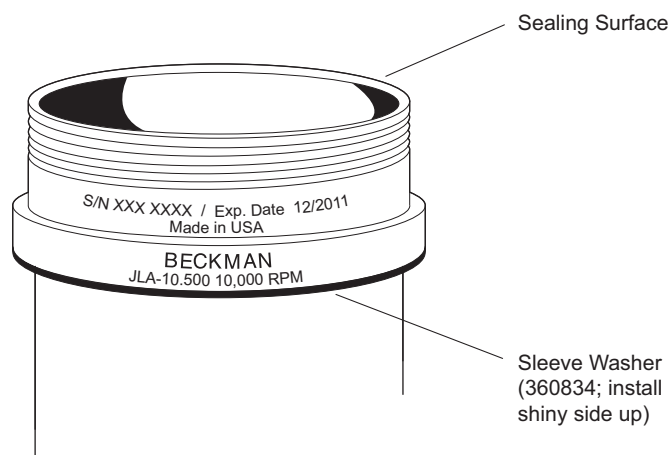

Figure 3. Cannister Sleeve Washer
- Inspect the sealing surface (see Figure 3) to make sure that it is smooth and undamaged. Gouges in this surface may prevent the closure O-ring from achieving a tight seal.
- Each cannister has an expiration date, engraved on the aluminum ring around the top of the cannister (see Figure 3). *Do not use the cannister after this date* (see the Warranty for additional information). New cannisters can be used with the same rotor body. Cannister closures should be replaced when the cannisters are replaced.
- Each cannister has a yellow Ultem4 sleeve washer (360834) beneath the aluminum sleeve (see Figure 3), which acts as a cushion between the cannister sleeve and the rotor body. Before each use, check to make sure that this washer is in place. If the cannister is exposed to high temperatures and/or autoclaving, the washer may loosen; if this happens, press it back in place with your finger. If it comes all the way off the cannister, replace it with the *shiny side up*.